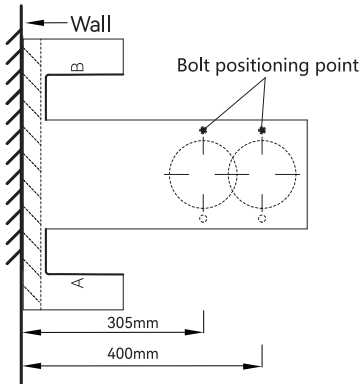

Figure 1
1. Align the positioning plate with center line of sewage outlet, and fix it with transparent tape around. Draw the corresponding outlines according to the the bold lines A and B, then drill holes for bolts according to bolt positioning point, and remove the positionig plate. As shown in Figure 1.